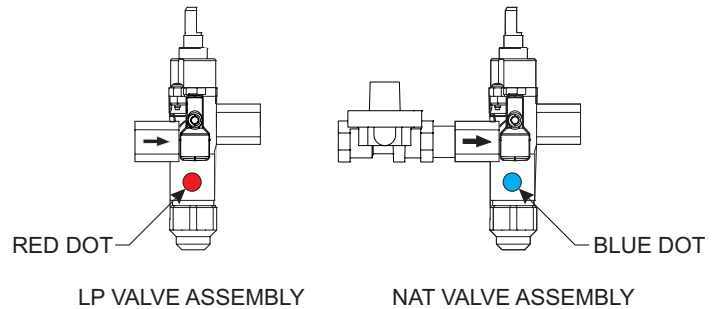

Figure 11
14. Install the replacement gas valve into the fireplace. **See Figure 11** for gas type identification. Secure in place with the jamb nut removed in step 13.